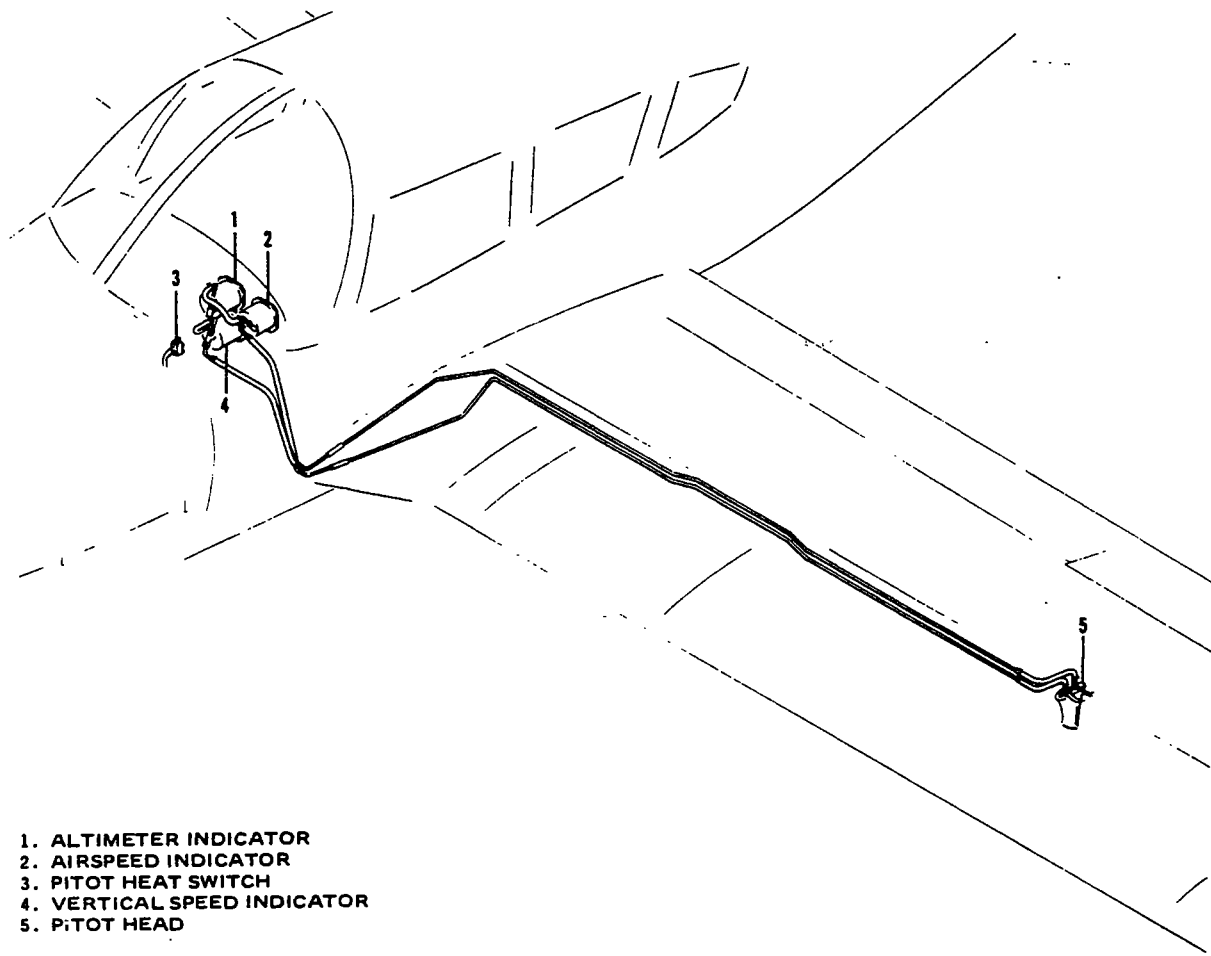

Figure 10-18. Typical Pitot Static System
**10-23. INSTRUMENT AIR SYSTEM.** (Refer to Figure 10-18.) The instrument air system consists of a pitot air system and a static air system. The system supplies both pitot and static pressure for the airspeed indicator, altimeter and vertical speed indicator. Refer to Figure 10-18 for PA-28-140, -150, -160, -180 -235, PA-28R-180 and -200 system layout.